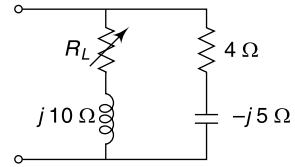

Fig. 5.54 Circuit diagram for Ex. 5.57
5.57 Show that no value of R_L in the circuit shown in Fig. 5.54 will make it resonant.